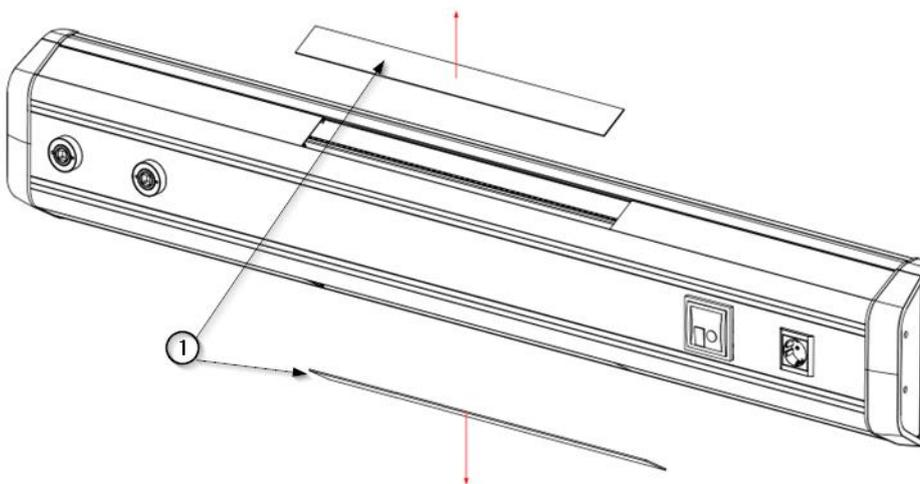

Fig.3 Removal of upper and lower diffusers
- Remove the light diffusers ① as shown in Fig. 3. Use a flat-bladed screwdriver with care not to scratch the paint on the side covers.